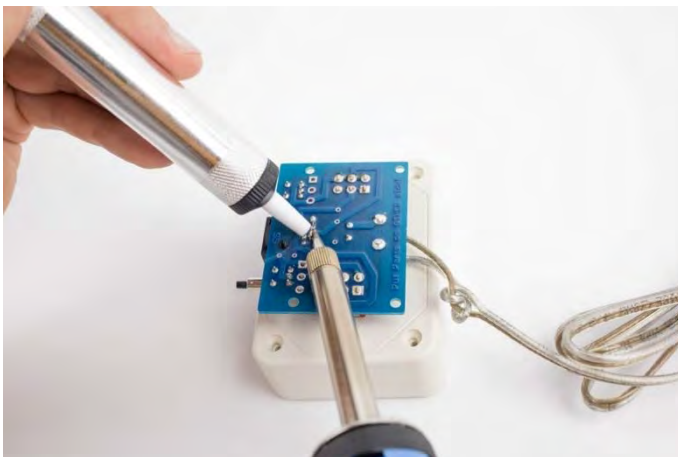

Figure 7
- ❑ Place the tip of the de-soldering pump as close as possible against the melted connection. (Figure 7)